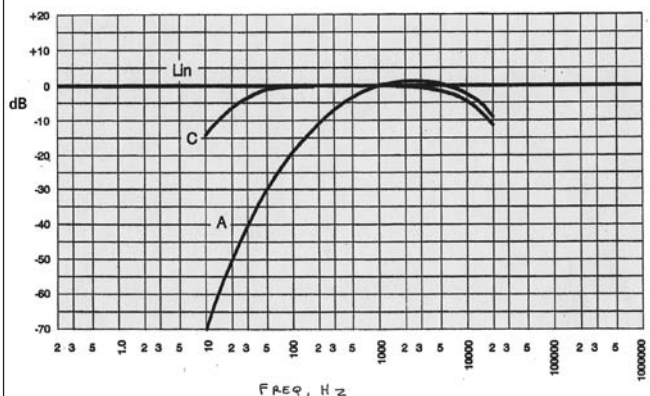

FIGURE 6: "A" and "C" weighting curves.
3. The "A" weighting curve (for low-level sounds) further emphasizes (perceptually) the mid-treble range; the "A" curve peaks at 2.5kHz, like your low-level hearing (**Fig. 6**).
1. The "raw" ($nV/\sqrt{\text{Hz}}$) spectrum in **Fig. 3** curve 1 has a strong LF rise below 1kHz. With the log frequency scale, this appears to affect half the spectrum. But 1kHz is only 5% of the 20kHz audio (and noise) BW. That's why the audio band averaged noise density is only $1.045nV/\sqrt{\text{Hz}}$, about the level at 2kHz. The "A" curve mostly attenuates below 1kHz (**Fig. 6**), again affecting only 5% of the audio band.
2. Notice in **Fig. 6** that at the peak frequency of 2.5kHz, the "A" curve is